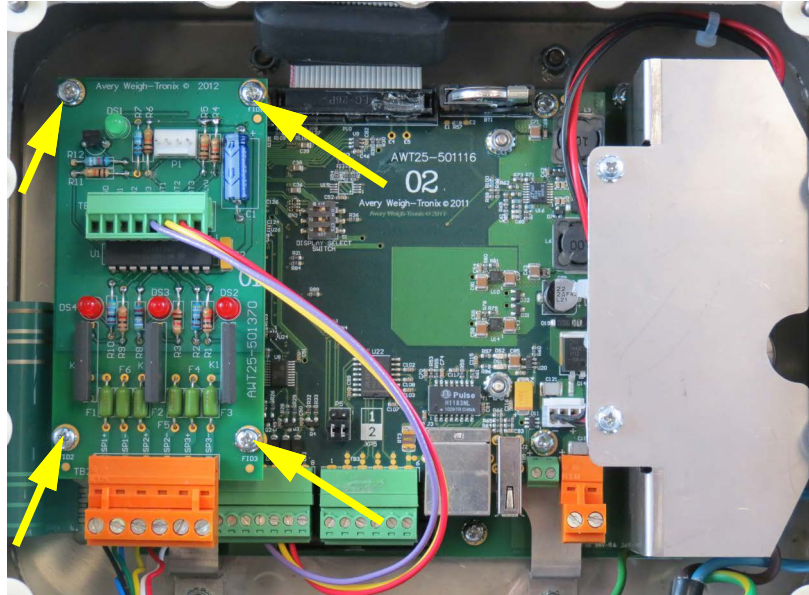

Figure 8.8 AC Relay option card on main board
1. Plug the option card into terminal J4 on the main board. See Figure 8.8. Use the included standoffs and screws to fasten the card to the main board at the four locations noted by the arrows.
These wires are shown in place in Figure 8.8.